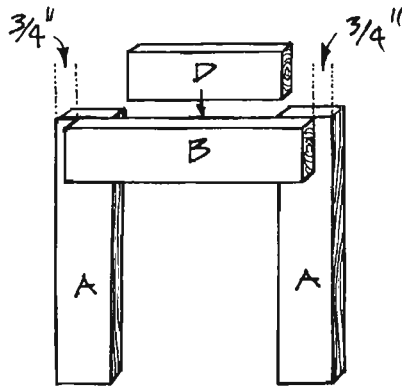

Figure 2
4. The front is shown in *Figure 2*. Assemble two legs (A) and one front/back connector (B), spacing them as shown. Again, the pieces are flush at the top, and there is a 3/4-inch offset at the sides. Use two screws at each end of the front/back connector (B) to secure the legs (A). Attach the front/back spacer (D) between the legs using three screws driven through the front/back connector (B) into the front/back spacer.